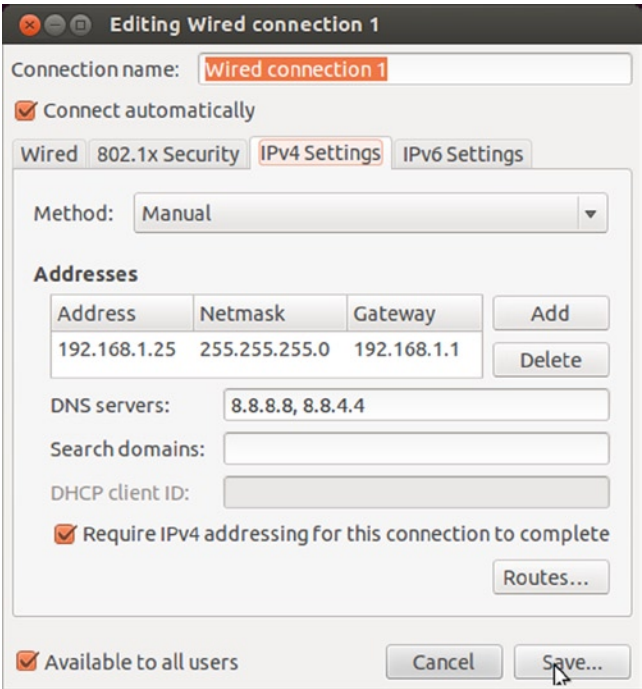

Figure 5-14. IPv4 properties with static IP only
- 6. This step is used when you need only a static IP without Internet access. Change the IPv4 properties by specifying an IP for your local connection, a subnet mask, a gateway (usually your router IP, such as 192.168.1.1) and the DNS servers. Figure 5-14 shows this configuration using the Google DNS servers 8.8.8.8 and 8.8.4.4.